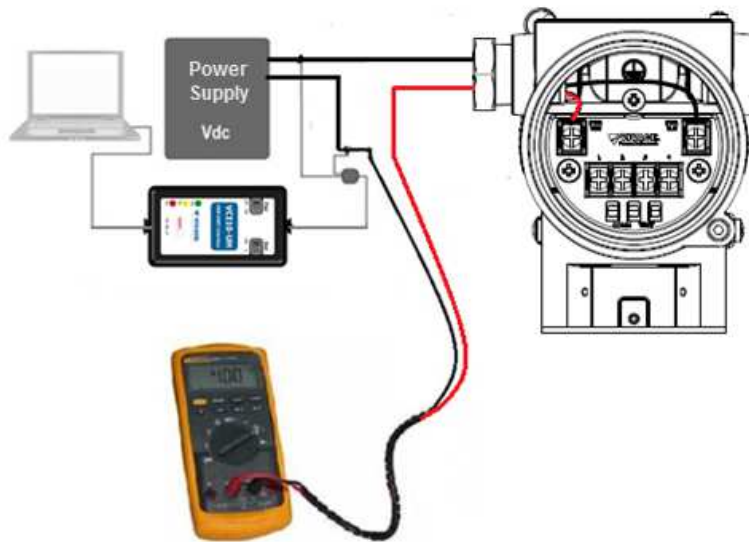

Figure 3.10 – VTT10-FH current trim configuration.
**Trim** – Enables the adjustment for transmitter output current, input temperature sensor (ohm or mV) and internal temperature sensor. Figure 3.10 shows the connection for current TRIM on VTT10-FH.